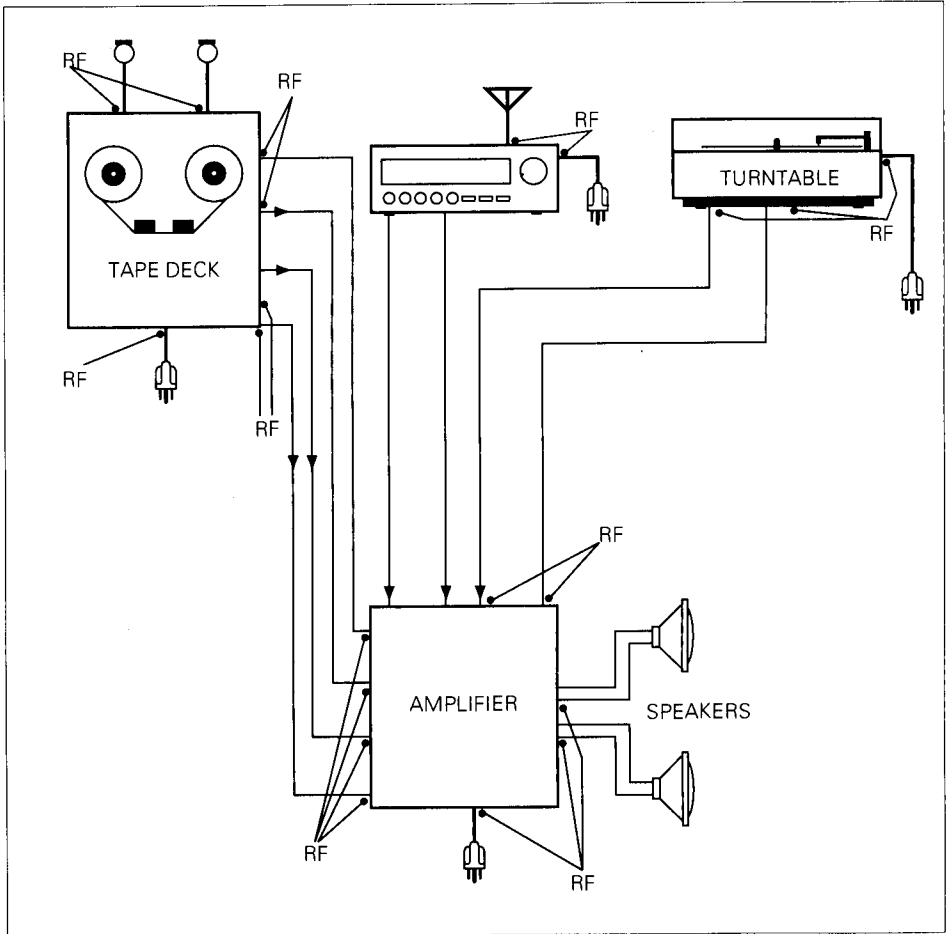

Figure 1.1 Potential radio-frequency interference entry points in a stereo system
- 1 Unplug all accessory items, for example, external speakers, phono leads, motor leads (see Figure 1.1). If the interference disappears, plug the leads back in one at a time until the interference reappears. This will identify the accessory causing the trouble. Decoupling this accessory with a 0.001 microfarad capacitor, either across or from each lead to ground, will usually cut out the interference. The leads of the capacitor should be as short as possible and the rated voltage at least 1 kV.